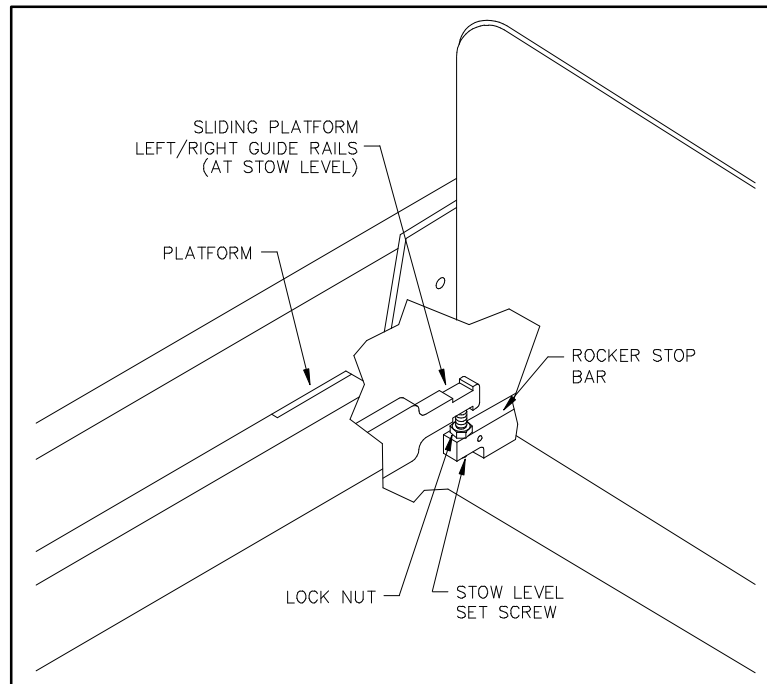

FIGURE 2-6: STOW LEVEL ADJUSTMENT
- b. Refer to **Figure 2-6**. Be certain that the sliding platform guide rails make contact with the rocker stop bars.